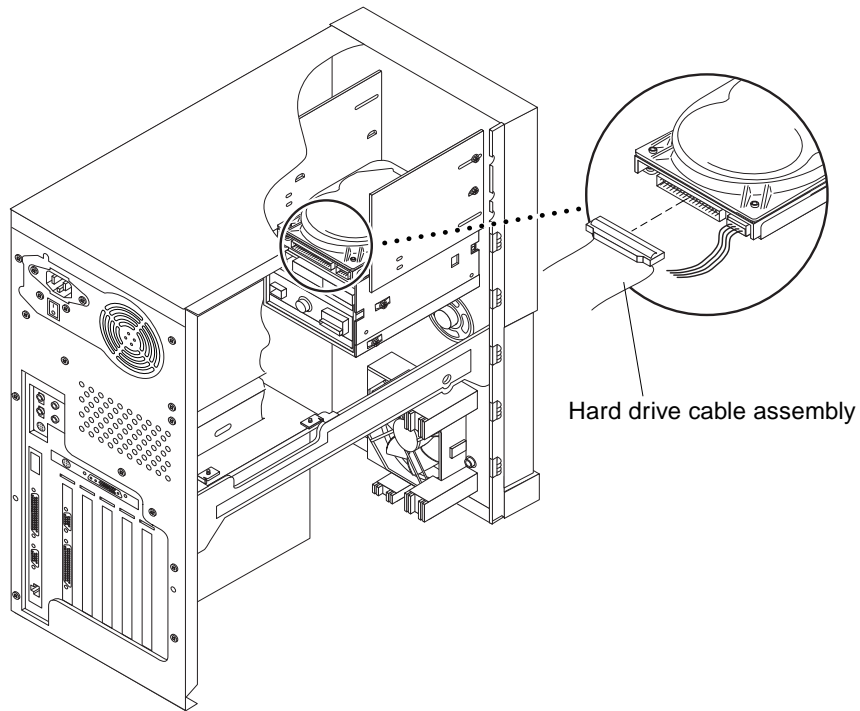

FIGURE 6-3 Removing and Replacing the Hard Drive Cable Assembly
2. **Disconnect the hard drive cable assembly connectors from the following (FIGURE 6-3):**
1. **Replace the hard drive cable assembly as follows (FIGURE 6-3):**